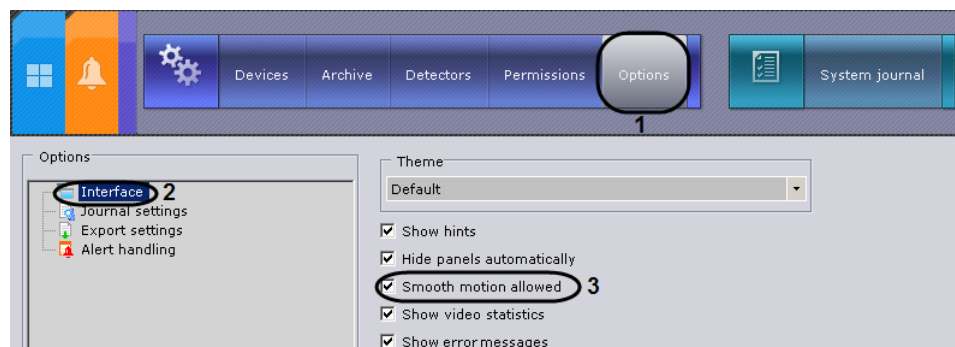

Fig. 6.6—5 Configuring smooth motion
1. Go to **System settings**⇒**Options**⇒**Interface** (Fig. 6.6—5, 1-2).
2. Deselect the **Smooth motion allowed** checkbox (see Fig. 6.6—5, 3).